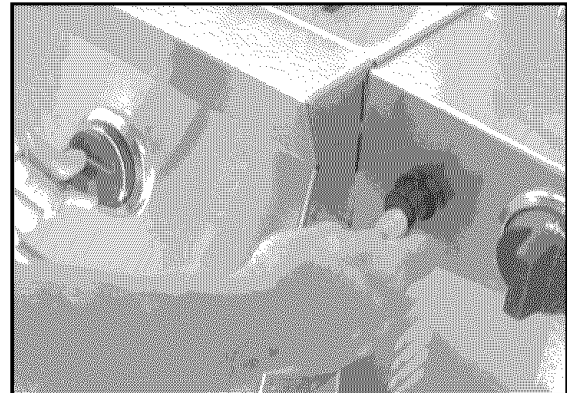

Fig. 15
4. Push and turn one of the control knobs counter clockwise to the "HIGH" position and immediately press the electronic igniter button. You will hear a snapping sound. It may be necessary to hold the electronic starter button for about 4 seconds. (See Fig. 15)